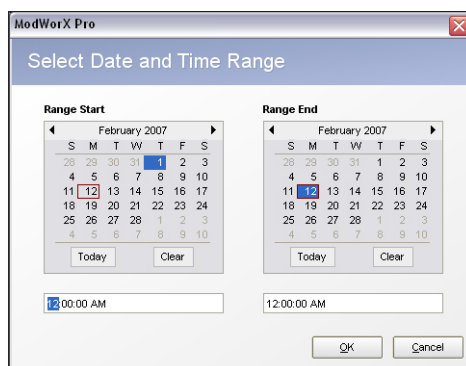

Figure 14.15
- Click on **Set Time Axis Range** and enter a Start date and time and an End date and time using the calendars provided. Figure 14.15, page 199, shows the calendar for selecting a range of interval logs. For daily logs, the calendar will prompt the user to enter a Start and End date only (no times).